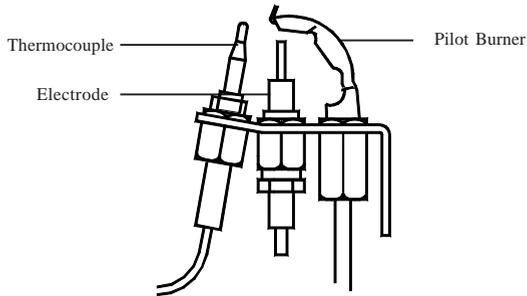

Fig. 3
- 6.3.6 Ensure that the pilot flame envelops thermocouple tip, adjusting the Pilot Adjuster as required (refer Fig. 3).